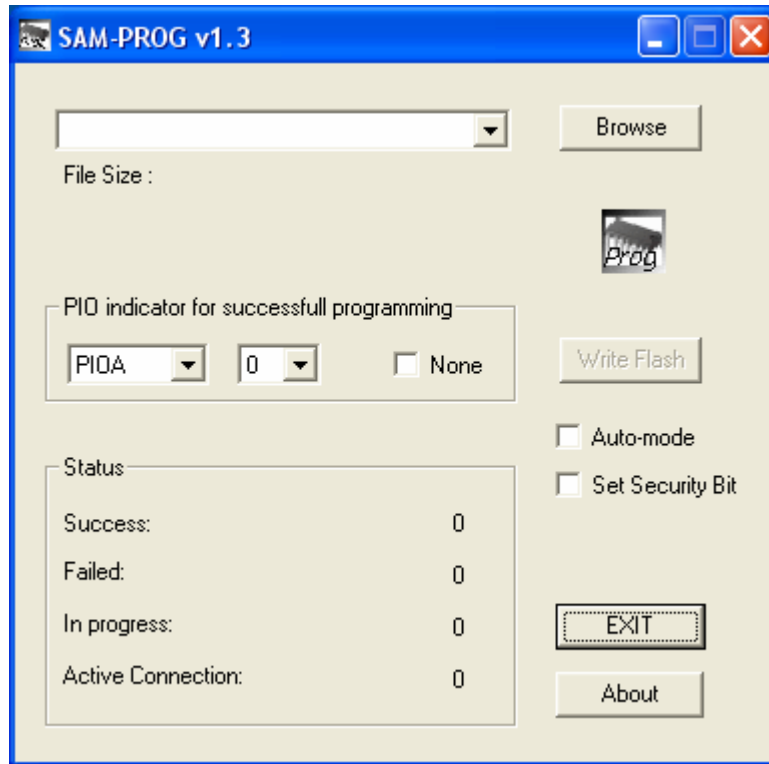

Fig. 44
Step 3: The SAM-PROG window will pop up and the user is now ready for firmware upgrade operation. (Fig. 44)